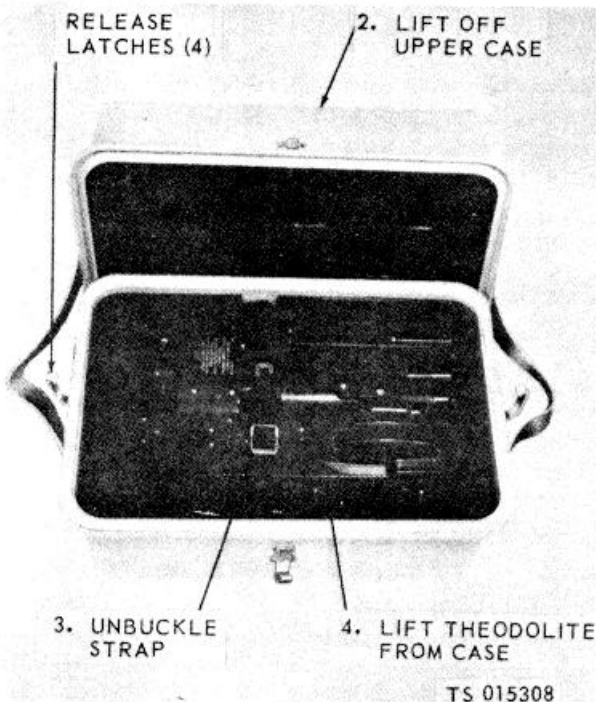

Figure 2-4. Theodolite carrying case, Theodolite removal and installation.
(e) Theodolite may now be lifted from carrying case (fig. 2-4) and mounted on tripod as given in paragraph 2-2.
- (1) Remove theodolite from carrying case (fig. 2-4).